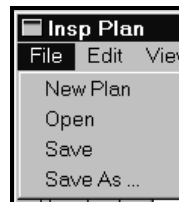

Figure 3-86. Plans > File Menu
As shown in Figure 3-86, the File menu contains four (4) choices. They are New Plan, Open, Save and Save As....